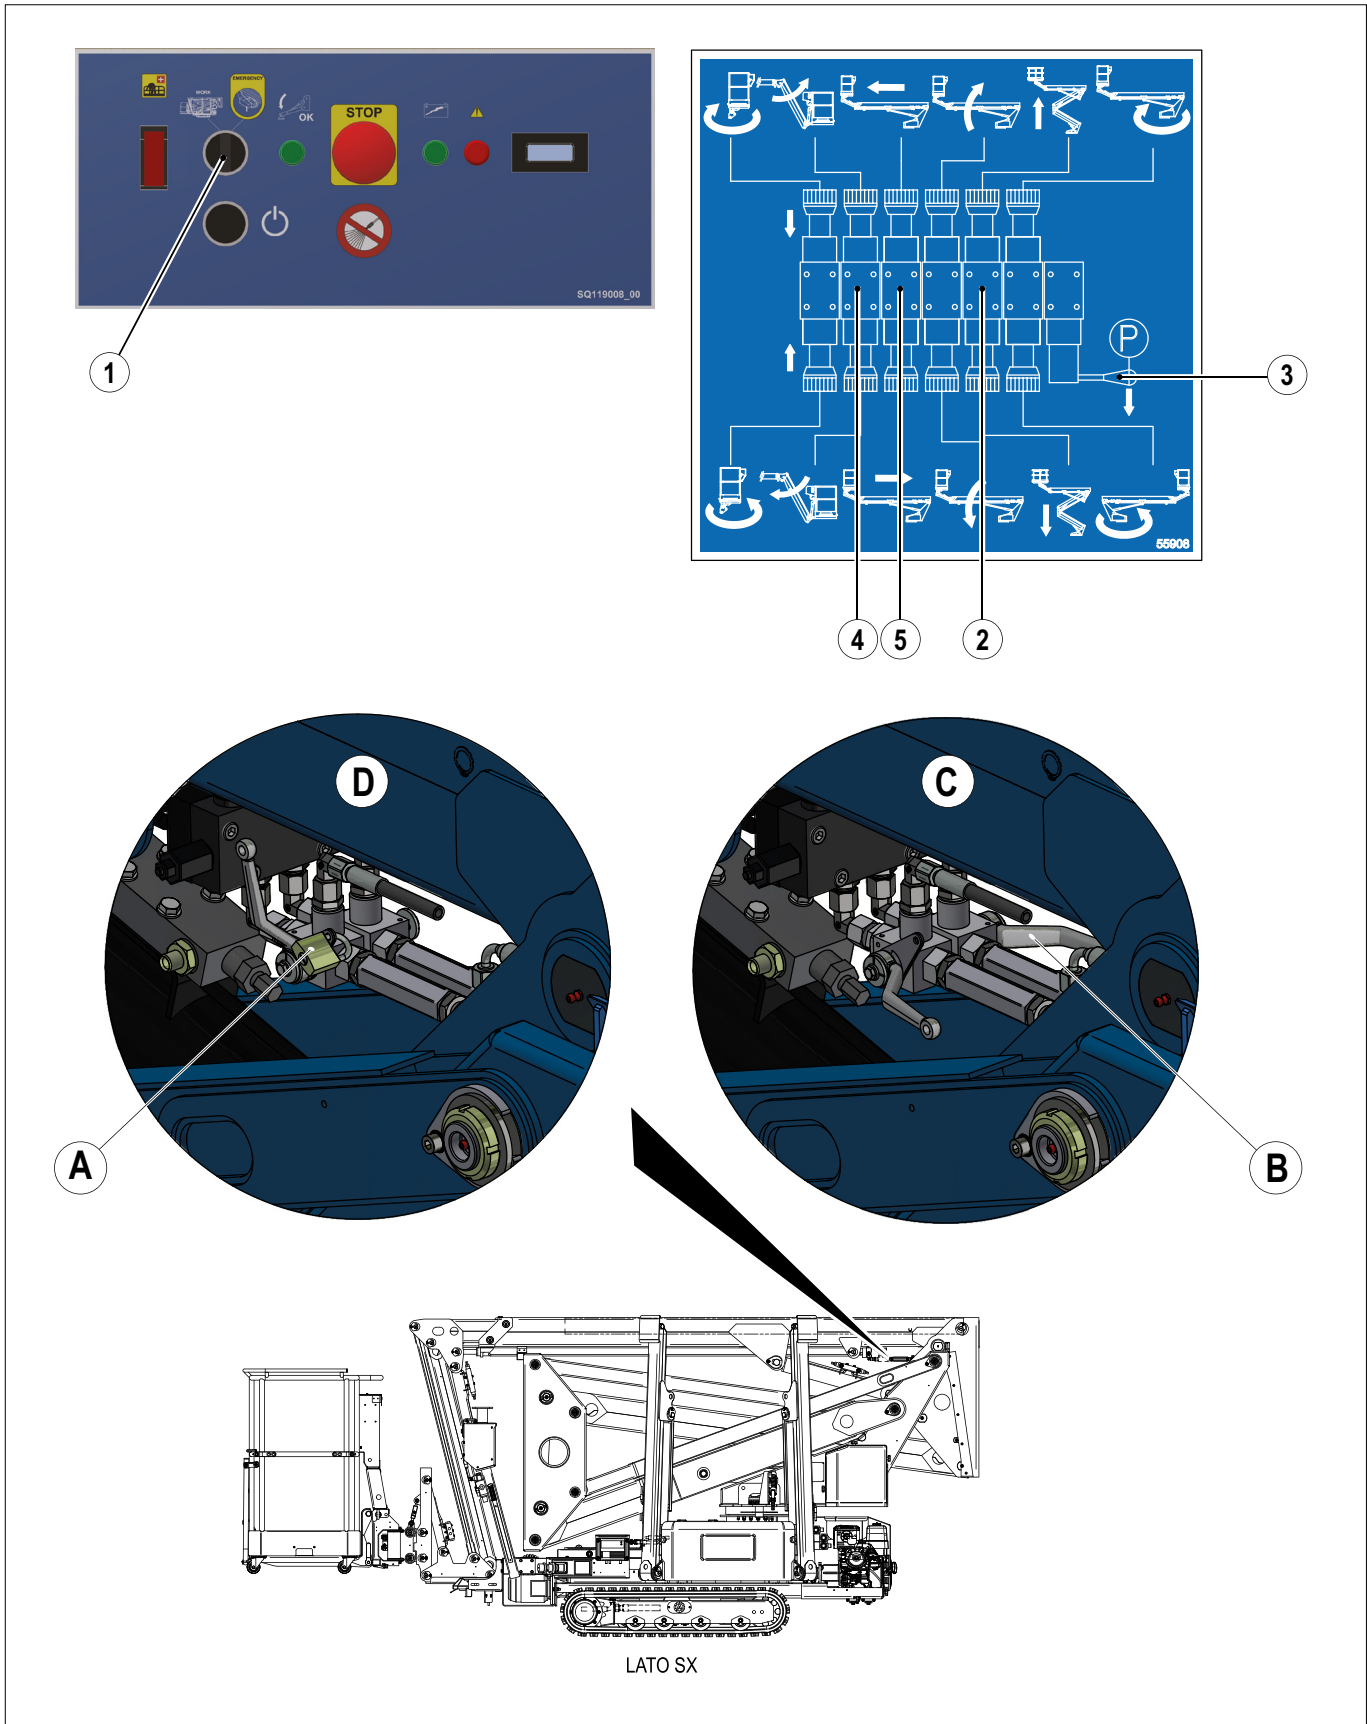

FIG. 36 (Levelling the elevating work platform - MEWP)
- 6) Press and hold the knob of the valve that controls the lifting of the articulated boom (**FIG. 36 - Ref. 2**) while simultaneously operating the speed control lever (P) (**FIG. 36 - Ref. 3**), until the enclosure has been raised by at least half a metre. Refer to the sticker to identify the correct valve.
- 7) Press and hold the knob of the valve that controls the lifting of the jib (**FIG. 36 - Ref. 4**) while simultaneously operating the speed adjustment lever (P) (**FIG. 36 - Ref. 3**) until the jib exceeds the vertical position.
- 8) Open the padlock on the diverter (**FIG. 36 - Ref. A**) using the key kept by the safety manager.
- 10) Install the lever on the second diverter (**FIG. 36 - Ref. B**).
- 12) Press and hold the knob of the valve that controls the extension of the telescopic boom (**FIG. 36 - Ref. 5**) while operating the adjustment lever (P) (**FIG. 36 - Ref. 3**) to level the enclosure. Complete a full downward and upward stroke of the enclosure and then align it.
- 13) Once these operations have been completed, return the two-position diverters located at the base of the extensible boom to their original position (**FIG. 36 - Ref. D**).
- 14) Remove the lever from the diverter (**FIG. 36 - Ref. B**) and replace it in the turret, fixing it with the black locking knob.
- 15) Put the padlock back in the locking position (**FIG. 36 - Ref. A**), lock it, and return the key to the safety manager.
- 16) Carry out a test to ensure that the telescopic boom extension is operating correctly after locking the diverters. Press and hold the knob of the valve that controls the extension of the telescopic boom (**FIG. 36 - Ref. 5**) while operating the adjustment lever (P) (**FIG. 36 - Ref. 3**). Only the telescopic boom should be removed while the work platform remains stationary.